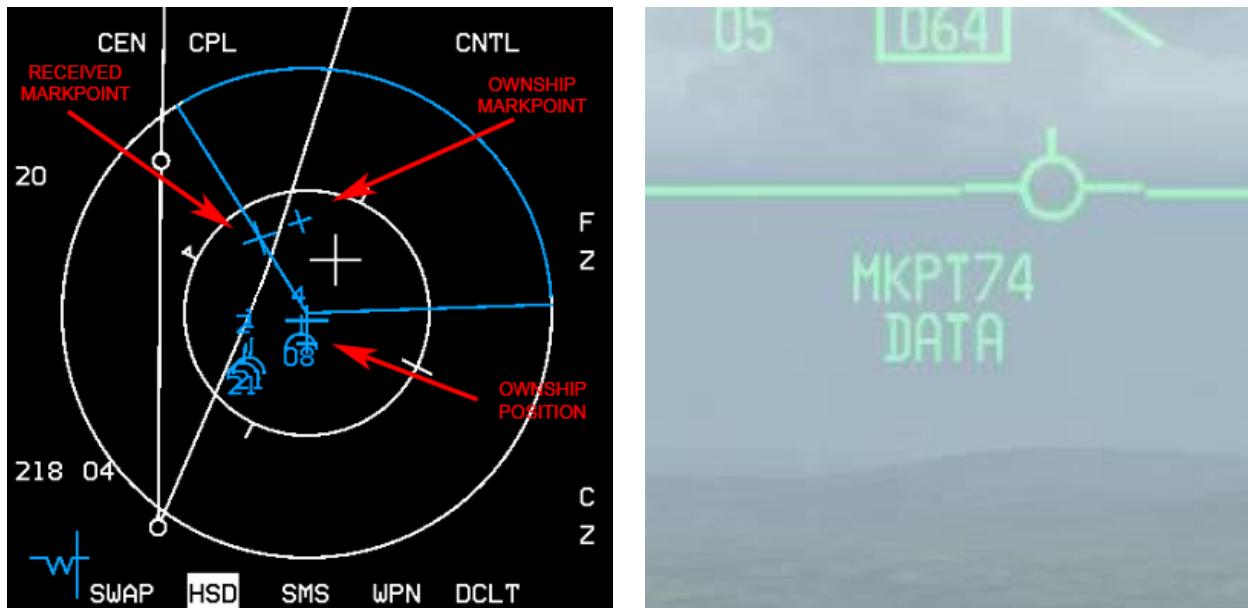

Figure 12 Assignee (#3's) HSD and HUD showing data linked Markpoint
- Data Link Steerpoints (see Figure 12). Are stored in steerpoints 71-80. Ownship Markpoints are shown as a big X. Data link steerpoints are shown as a small x.